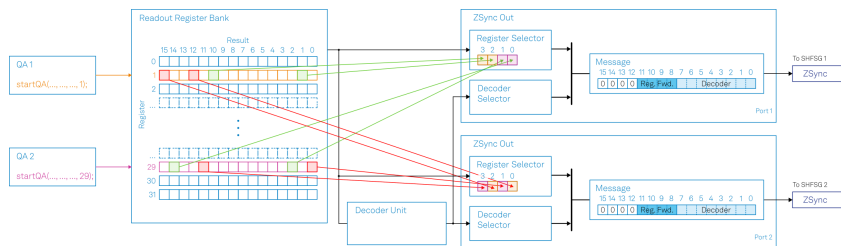

Figure 1.1: An example of register forwarding in the PQSC until LabOne 23.02
In this example, there are two QA channels writing their readout results in register 1 and 29 respectively. The PQSC is configured to forward eight results to two different instruments connected to the first two ZSync ports, as shown in Figure 1.1. When a QA performs a readout, its results are automatically written in the readout register specified in the fourth argument of the **startQA** command, and the PQSC automatically forwards the chosen results.
To configure the PQSC as in Figure 1.1, its nodes should be programmed as in Table 1.1.
Like in the previous example, there are two QA channels writing their readout results in register 1 and 29 respectively. QA1 is configured such that two results (X and Y) are the output of Multi State Discrimination (MSD), so each is composed by two bits, while another (Z) is the result of regular discrimination, so it uses only one bit. The QA2 produces three results (I, J and K) from regular discrimination, so a total of three bits. The PQSC is configured to forward these results to two different instruments connected to the first two ZSync ports, as shown in Figure 1.1. A third instrument is configured to receive the output of the decoder unit. For clarity in this example, the register forwarding is sending only three results per port instead of the maximum of eight and the configuration of the decoder unit is omitted.